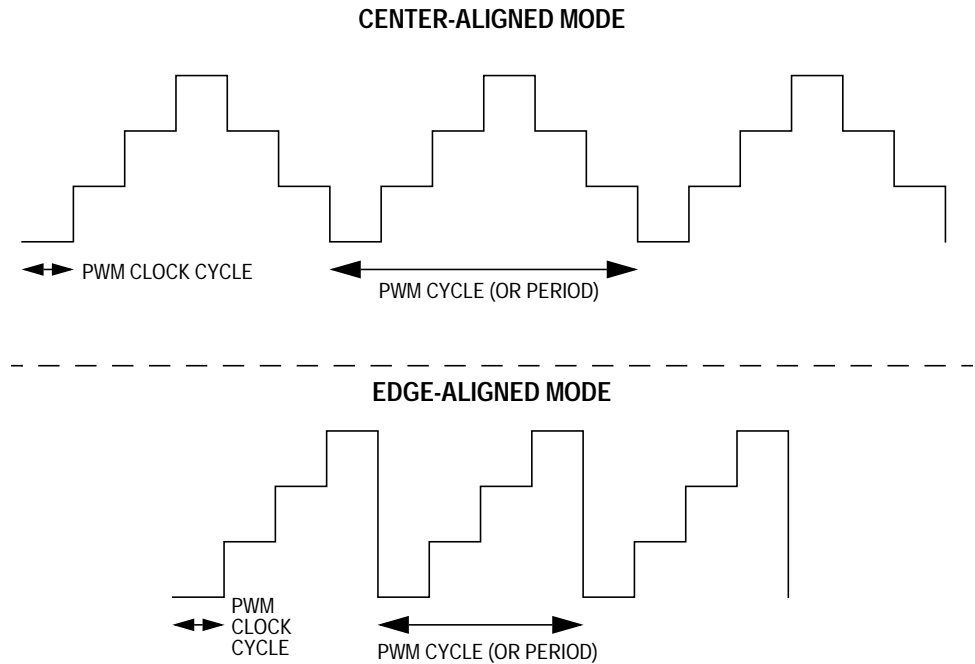

Figure 9-45. PWM Clock Cycle and PWM Cycle Definitions
PWM Clock Cycle (or Period) — One tick of the PWM counter ($1/f_{op}$ with no prescaler). See Figure 9-45.
- Center-aligned mode: The time it takes the PWM counter to count up and count down ($\text{modulus} \cdot 2/f_{op}$ assuming no prescaler). See Figure 9-45.
- Edge-aligned mode: The time it takes the PWM counter to count up ($\text{Modulus}/f_{op}$). See Figure 9-45.